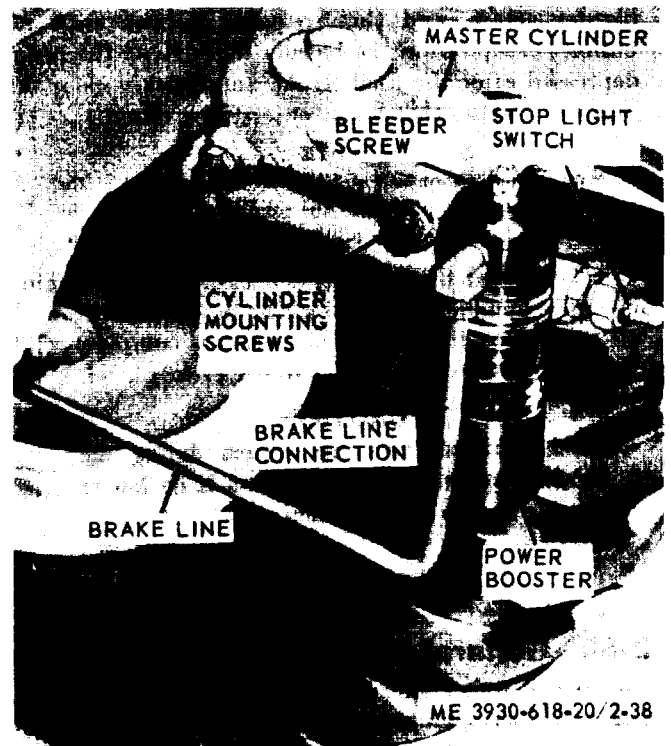

Figure 2-38. Brake master cylinder and brake power booster. installed view
a. *Removal.* Refer to figure 2-38 and remove the master cylinder assembly as follows :
(5) Remove the screws holding the master cylinder assembly to the inside of the frame and remove the cylinder.
b. Removal. Refer to figure 2-38 and remove the power booster as follows :
(1) Remove the floor plate.
(2) Disconnect the brake line at the power booster.
(3) Using an open-end wrench of the proper size, hold the connecting nipple to the master cylinder while removing the power booster.